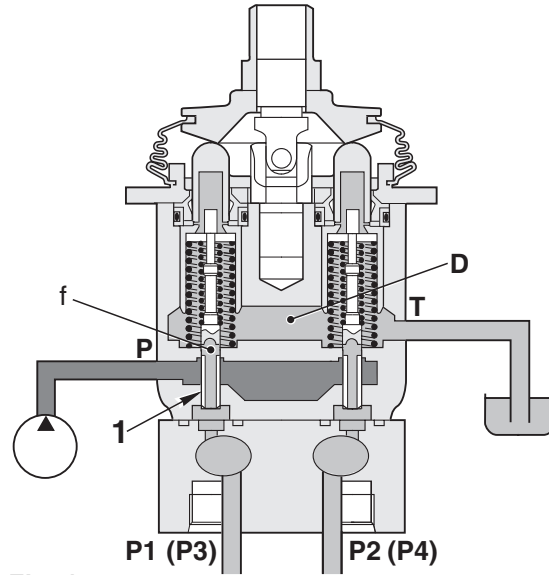

Fig. 1
Ports **P1** and **P2** of the PPC valve are connected to drain chamber **D** through fine control hole **f** in spool (1). (Fig. 1).